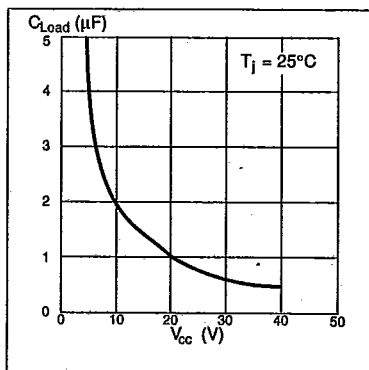

Figure 11. Maximum load capacitance vs. supply voltage.
3. Figure 11 shows the max. load capacitance vs. supply voltage. Generally a slow capacitive load (high ESR) will accept higher supply voltages than a fast capacitive load without going into short-circuit protection